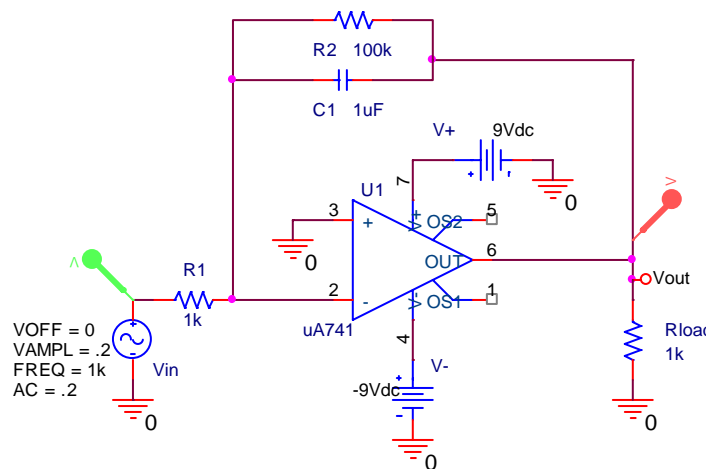

Figure C-3
- Build the integration circuit shown below in figure C-3. V1 should have a 200mV amplitude and 1K Hz frequency.
- Build the op-amp integrator circuit as shown in figure C-3.